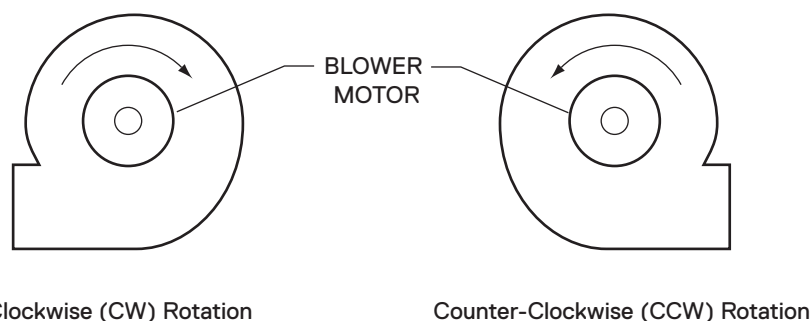

Figure 2
- 16 ☐ ☐ ☐ Apply power to the blower motor momentarily (bump start) to check for proper blower wheel rotation. If the blower is rotating in the wrong direction, reconnect the motor leads per the motor manufacturer's wiring schematic. **Blower rotation is determined by viewing the blower from the motor side of the blower, NOT from the inlet side.** After reconnecting the leads, repeat this step. See **Figure 2**.